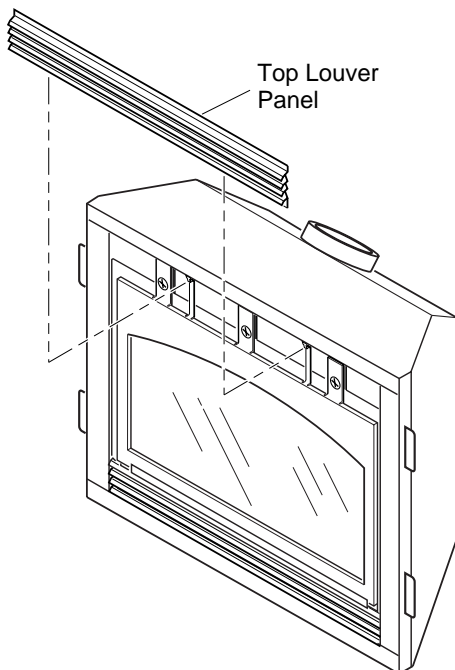

Figure 44 - Removing Top Louver Panel
1. Remove the upper louver panel by lifting upward and out (see Figure 44).